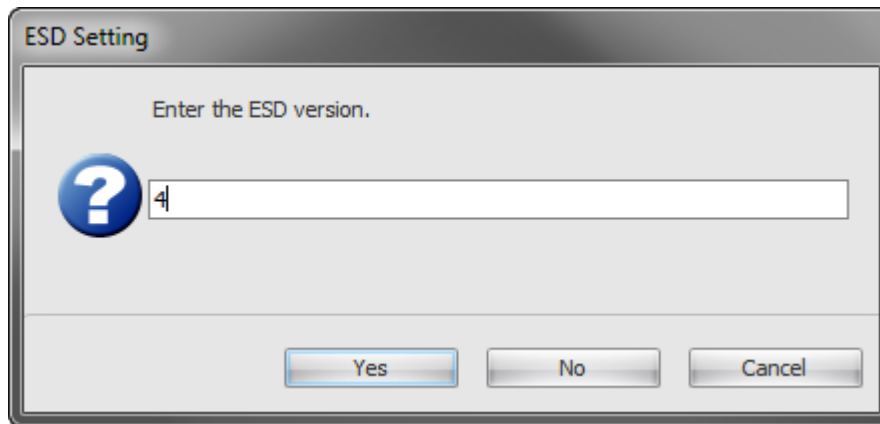

Figure 50. EDS Setting Dialog Window
1. From the Forms Manager, click **Set ESD Version** on the **Administrative** tab. The ESD Setting dialog window opens, as shown in Figure 50.